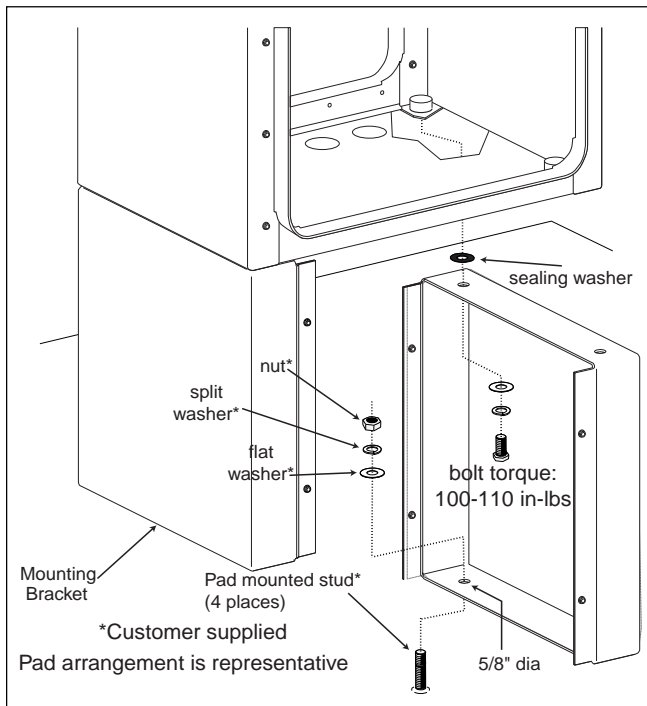

Figure 6. Pad Mounting Bracket Installation
8. Following the illustration in **Figure 6** and using the parts supplied in the pad mounting kit, fasten the two pad mounting brackets to both sides of the bottom of the cabinet. Ensure the sealing washers are placed between the cabinet and the pad mounting brackets. Tighten to 100-110 in-lbs.